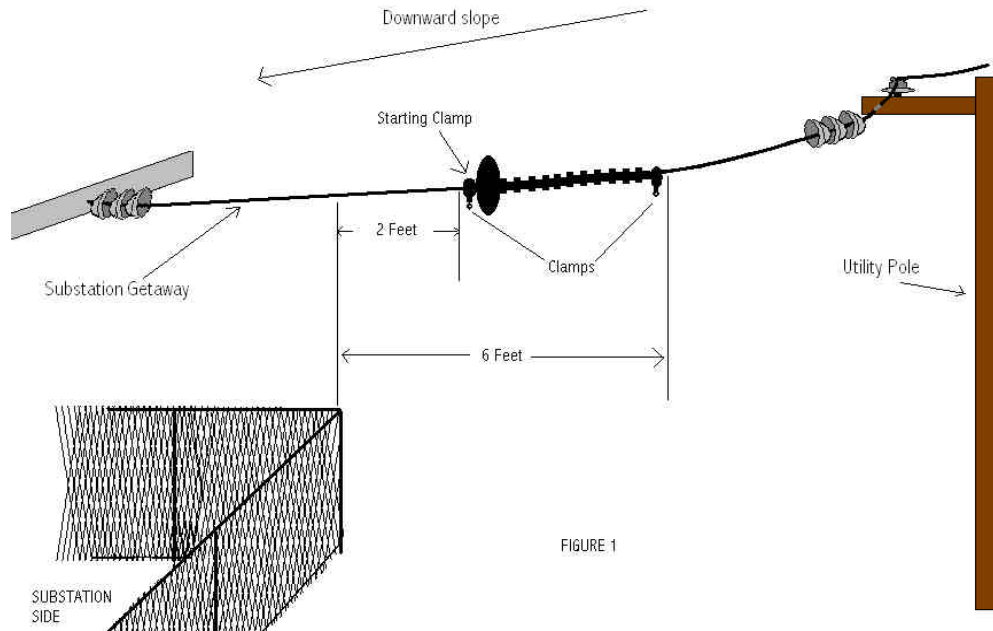
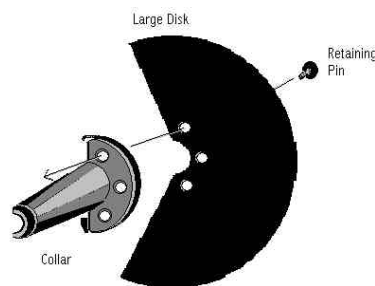

FIGURE 1
Figure 2
1. Begin by placing the starting clamp on the downside slope of the overhead get away line. (See Figure 1)
- a. The starting clamp should be positioned far enough away to account for the four(4) foot length of the getaway barrier plus a minimum two(2) foot distance from the substation fence line. It is always prudent to situate the starting clamp so that the assembly will be installed outside the substation fence.
2. Assemble large disk and collar assembly: (See figure 2)
4. Next take the remaining eleven(11) collars and snap them together around the line and push forward so that each collar nestle together one inside the other.